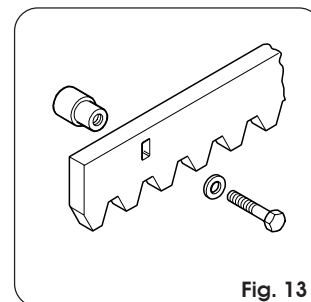

Fig. 13
4.8.1. Steel rack to be welded (Fig. 13)